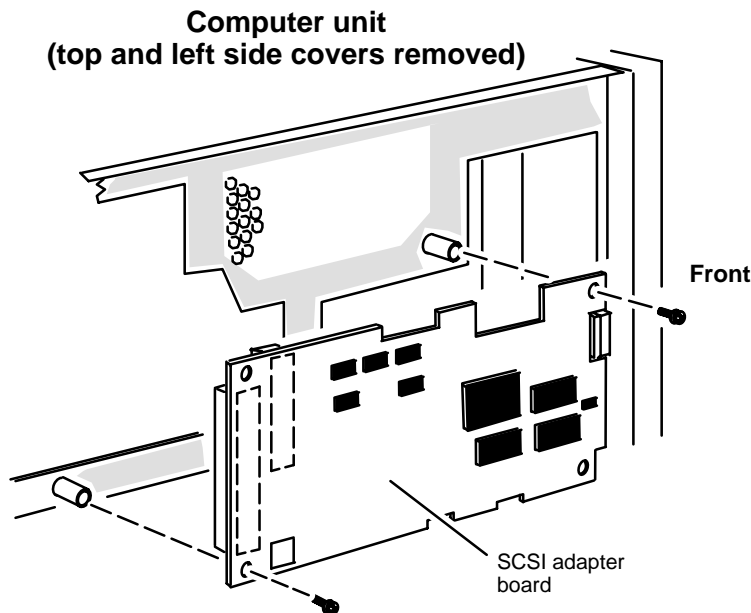

Figure 7-16 Removing or Installing SCSI Adapter Board Screws
3. Remove the two screws securing the SCSI adapter board to the front of the left side of the computer unit as shown in Figure 7-16.
2. Attach the SCSI adapter board to the computer unit with the two screws. Refer to Figure 7-16.